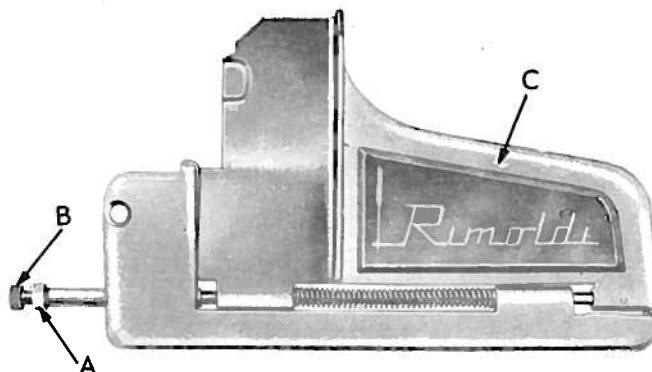

fig.19
f) Adjusting the front cover plate (fig. 19).